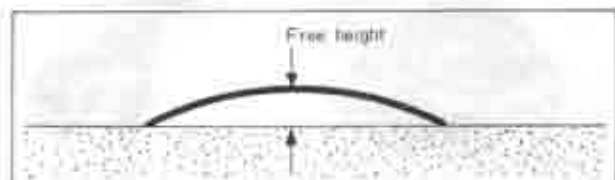

Fig. 1-46 Checking apex seal spring
5. Check the free height of the apex seal spring as shown in Fig. 1-46. It should be more than **5.5 mm (0.217 in)**.